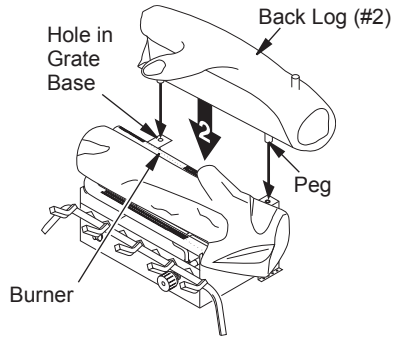

Figure 30 - Installing Back Log (#2)
2. Locate pegs on the bottom of back log (#2). Slide these pegs into the holes in the grate base behind the burner (see Figure 30).